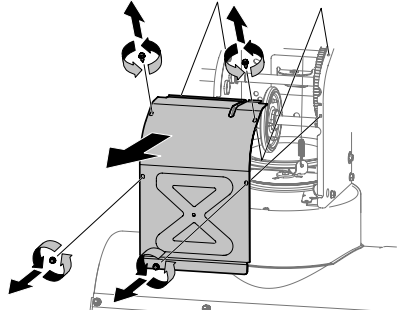

Figure 69
3. Remove frame cover from underside by removing self-tapping screws (Figure 69).
- Remove frame cover from underside by removing self-tapping screws (Figure 69).
- Remove frame cover from underside by removing four self-tapping screws (Figure 69).
- Using the four self tapping screws, reinstall the frame cover (Figure 69).